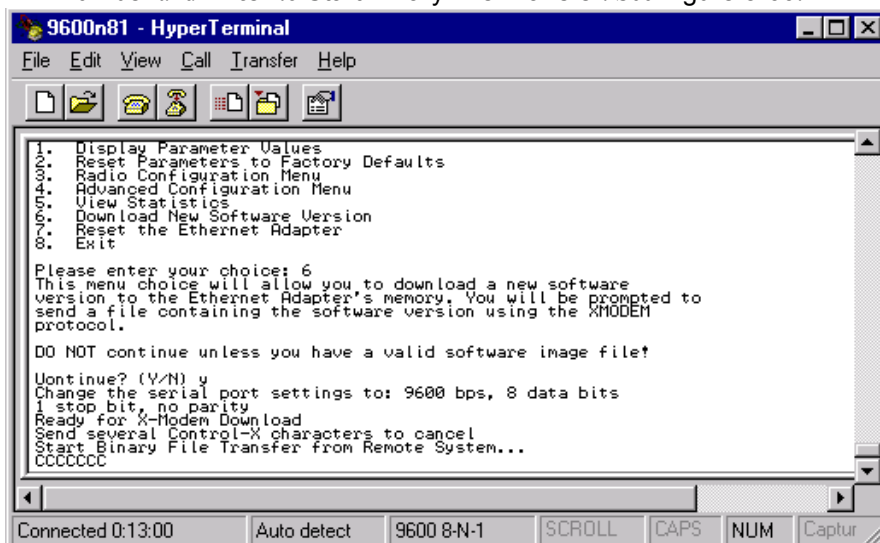

Figure 5-60 Start Binary File Transfer Information
Step 7. Type **1** (Down load AP Image using X-Modem) after Enter a selection number and **Enter** to Start Binary File Transfer. See Figure 5-60.